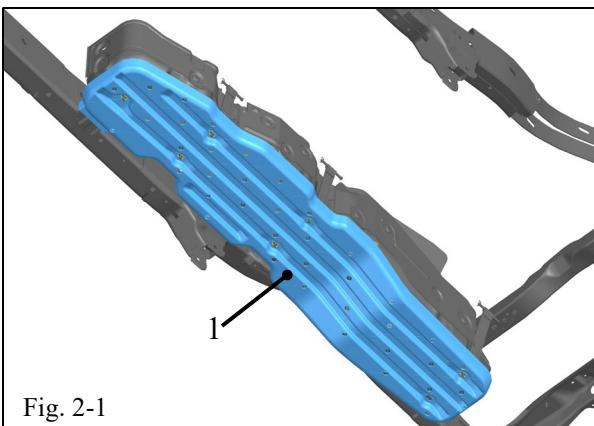

Fig. 2-1
- Locate the new fuel tank skid plate (1) (Fig. 2-1) on the vehicle by aligning the mounting holes on the skid plate with the welded studs on the fuel tank bands and bracket. Hold it in position.